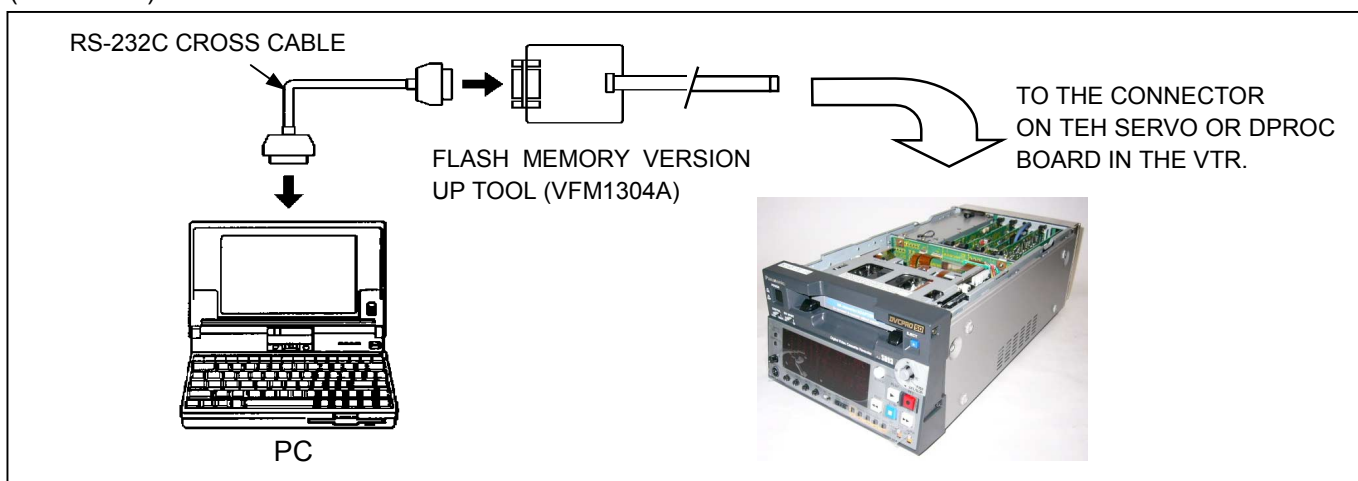

Figure 12-2A-1
1. Connect the Flash Memory Version Up Tool (VFK1304A) with Personal Computer (MS-DOS, Windows 95® or 98®) by RS-232C cross cable as shown in figure 12-2A-1.
2. Connect the flexible cable from the Flash Memory Version Up Tool to the connector on the board to be version upgraded as shown in table 12-1 and figure 12-2A-1.